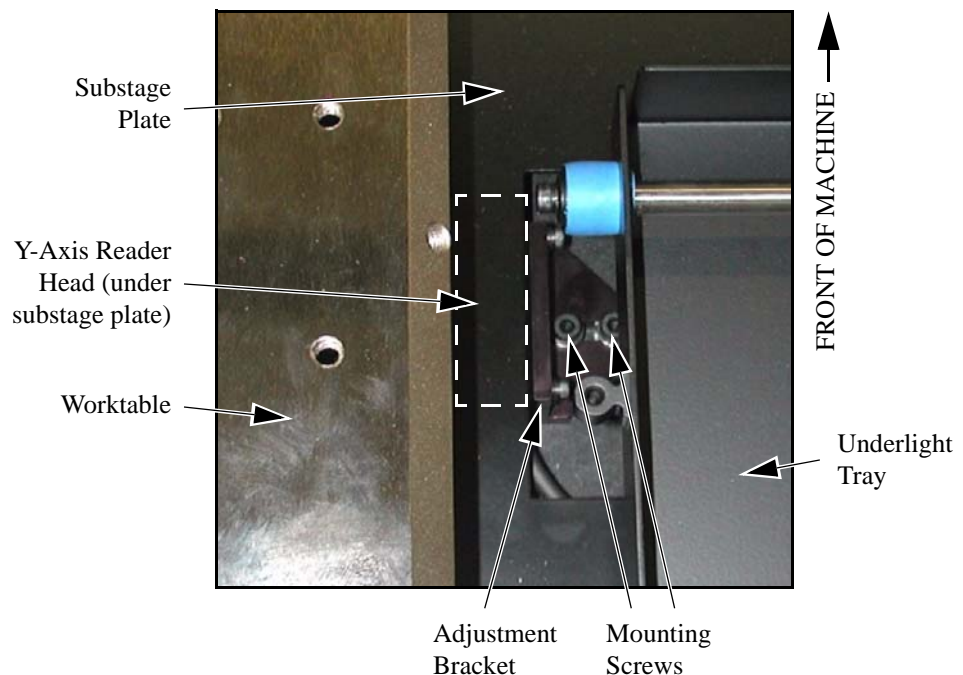

Figure 9-12 Removing the Y-Axis Reader Head
7. Use a 3 mm Allen wrench to remove the screws (and washers) that secure the reader head adjustment bracket (and attached scale reader head) to the granite (see Figure 9-12). Retain all mounting hardware.